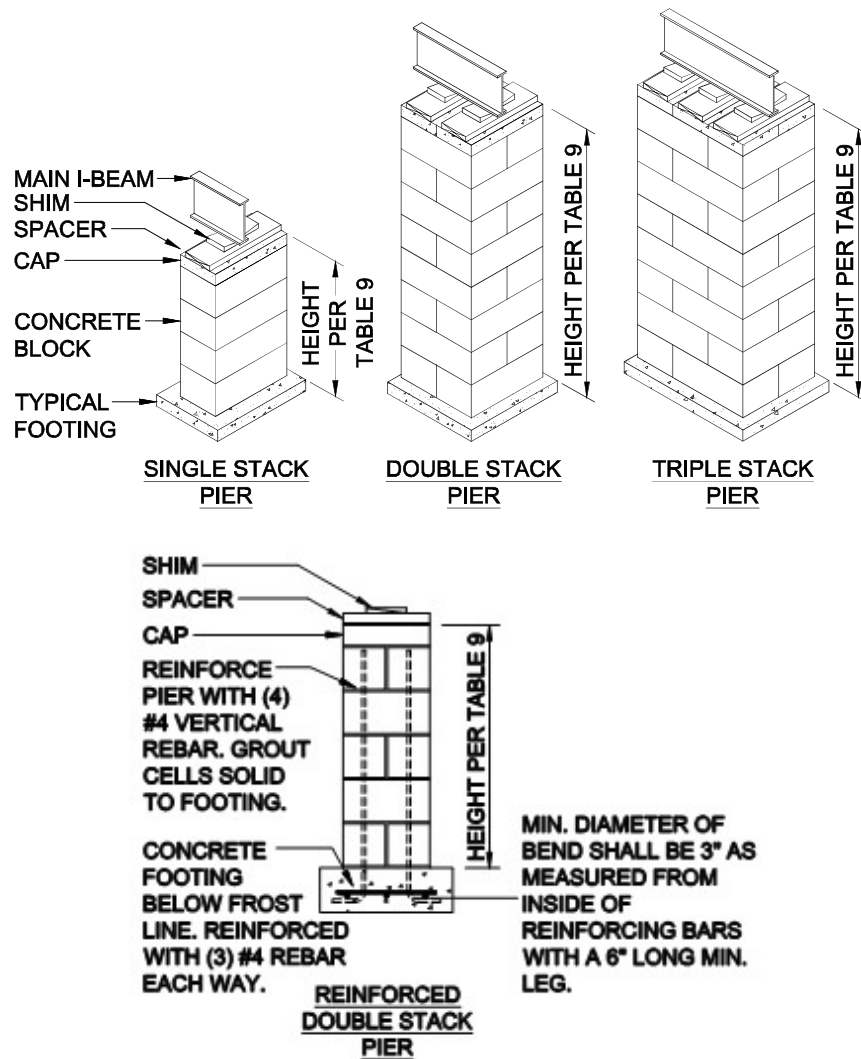

Figure 18. Frame pier construction
- 2. Stack blocks.** Stack concrete blocks with their hollow cells aligned vertically. When piers are constructed of blocks stacked side-by-side, orient each layer at right angles to the previous one (**Figure 18**) and plan blocks so that split caps will be perpendicular to the blocks they rest on and perpendicular to the main I-beam.